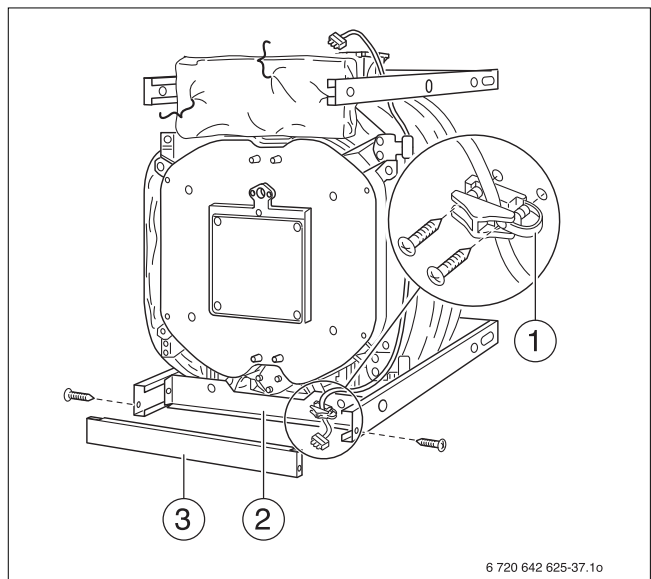

Fig. 40 Installation of the burner cable strain relief and base plates
- ▶ Attach strain relief for the burner cable depending on the door hinges left or right, to the bottom profile rail (→ Fig. 40 – for burner door hinge right).